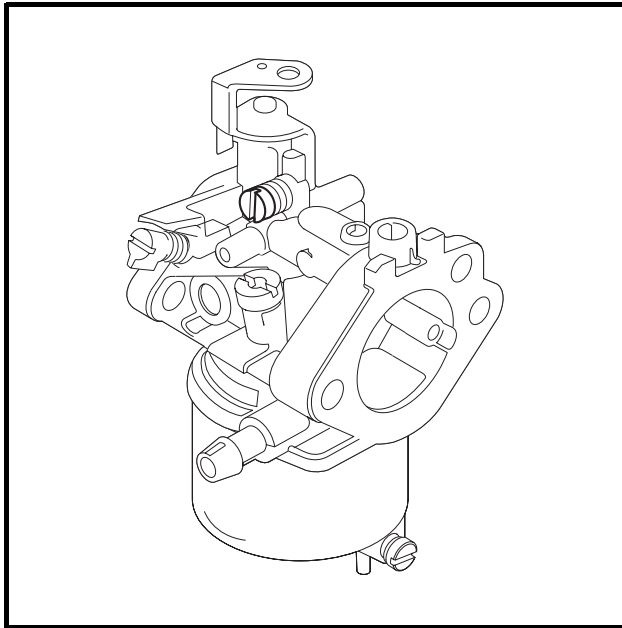

Figure 16-10 Idle Screw
1. Loosen the carburetor idle screw so that it is not touching the throttle lever (**Figure 16-10, Page 16-11**).